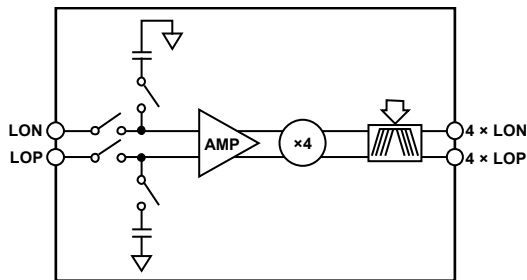

Figure 3. LO Input Path Block Diagram
The ADMV1013-EVALZ evaluation board contains a built in ADMV1013 chip. Figure 2 shows the location of this chip on the ADMV1013-EVALZ evaluation board and the block diagram of the ADMV1013. The local oscillator (LO) input path shown in Figure 3 operates from 5.4 GHz to 10.25 GHz with an LO amplitude range of -6 dBm to +6 dBm. The LO input path also has an internal quadrupler and a programmable band-pass filter. Program the LO band-pass filter from QUAD\_FILTERS (Register 0x09, Bits[3:0]).